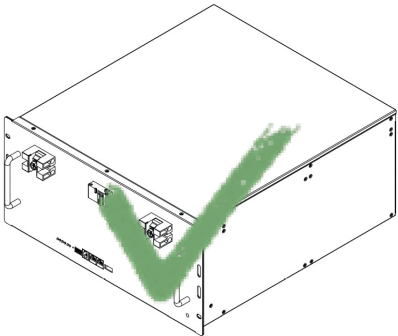

Figure 6-3 Right Way to Place Battery
- The VT48200B battery preferred to be installed in flat position as Fig 6-3 shown.